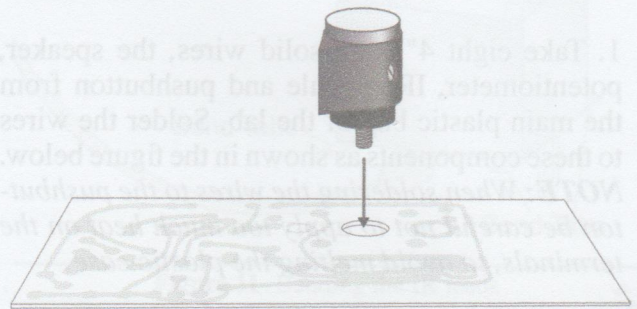

Figure 4 - Installing the tuning knob
12. Screw the knob and shaft into the threaded hole in capacitor C1 from the soldering side of the board, as shown in figure 4. Adjust the screws on the knob to ensure it is secured to the shaft. Be sure the knob can rotate freely without touching the solder on the board.